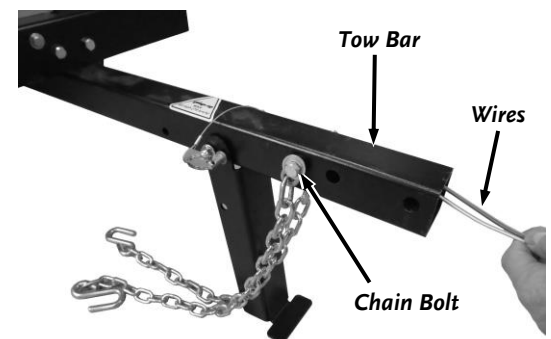
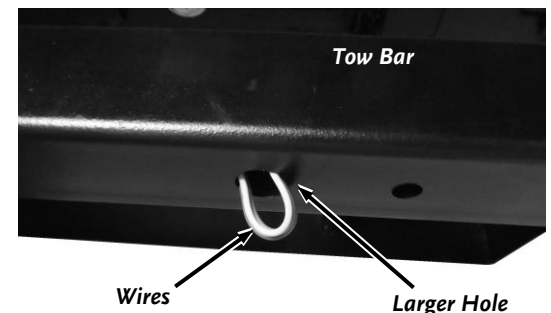

Figure 12
Figure 13
4. Insert the taped end of the wires into the Tow Bar and push the wires over the Chain Bolt (Figure 12). Continue pushing the wires until they reach the large hole at the center of the Tow Bar (Figure 13).
6. Continue pulling the Wires through leaving approximately three feet of the Plug end extended beyond the front of the Tow Bar (Figure 12). Note: You will want enough extra wire to plug into the tow vehicle and allow turning without binding.